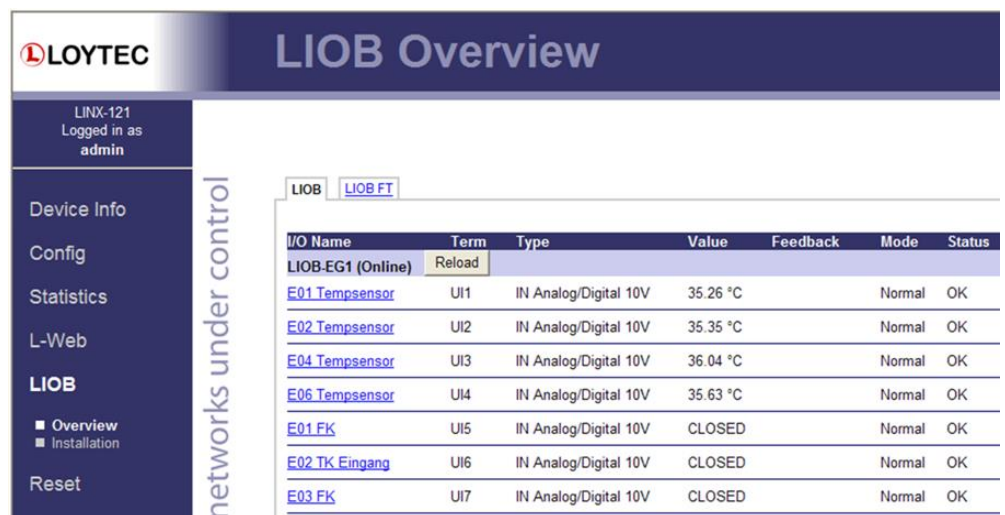

Figure 32: Test L-IOB inputs and outputs on the Web UI.
- After downloading the L-INX configuration into the L-INX device, the L-IOB input and output terminals can be tested with the L-INX Web UI. An example is shown in Figure 32.